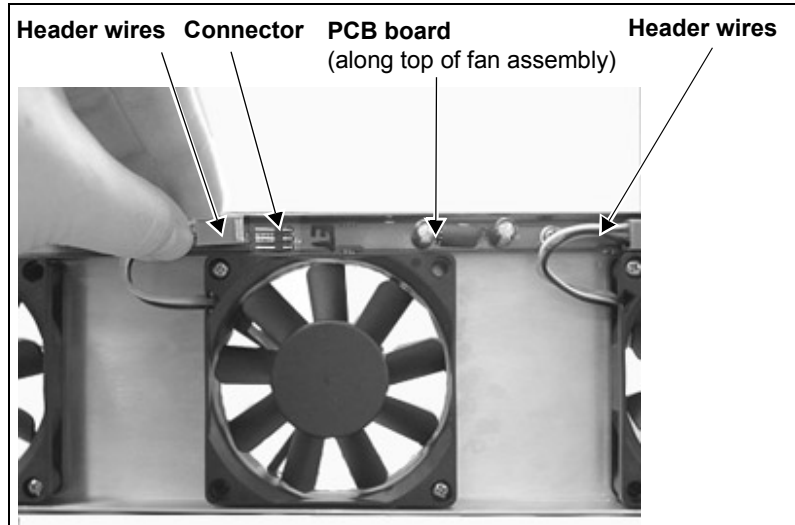

Figure 2-14. Removing Header Wires from Fan Assembly PCB Board
5. Identify the fan you are replacing, and then remove the corresponding header wires from the PCB board along the top of the assembly (see Figure 2-14).
(Ensure that the fan labelling is face down, and that the header wiring is at the top left corner of the installed fan, as shown in Figure 2-14 on page 30.)
8. Connect each new fan's header wires to the assembly PCB board (see Figure 2-14 on page 30).